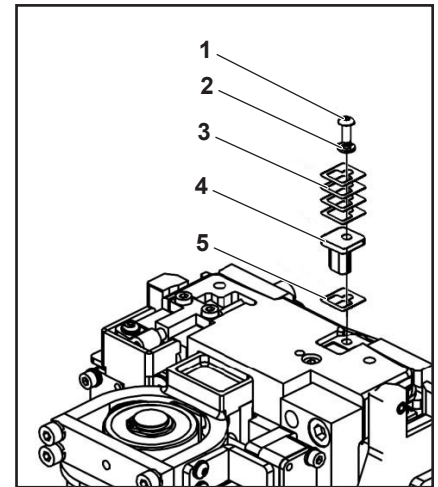

Figure 4-5: Strap Stop Guide
The Strap Stop Guide that mounts to the anvil is shimmed for optimum machine performance. This guide aids in directing the strap through the sealer and prevents the lead end of the strap from traveling too far upon re-entry. Multiple shims are used to adjust the strap path as needed to improve feeding reliability. Spare shims (**Figure 4-5: 5**) are kept under the head of the mounting screw for future use.
1. Remove the Button Head Cap Screw (**Figure 4-5: 1**) that secures the Strap Stop Guide (**Figure 4-5: 4**). The guide should easily lift out from the anvil once the mounting screw has been removed.
2. Add or remove shims (**Figure 4-5: 5**) from under the stop guide to adjust how deep the guide mounts in the anvil. Heavier gauge strap configuration should have more shims under the guide to raise its mounting position. Lighter gauge strap configuration should have less shims under the guide to lower it's mounting position.